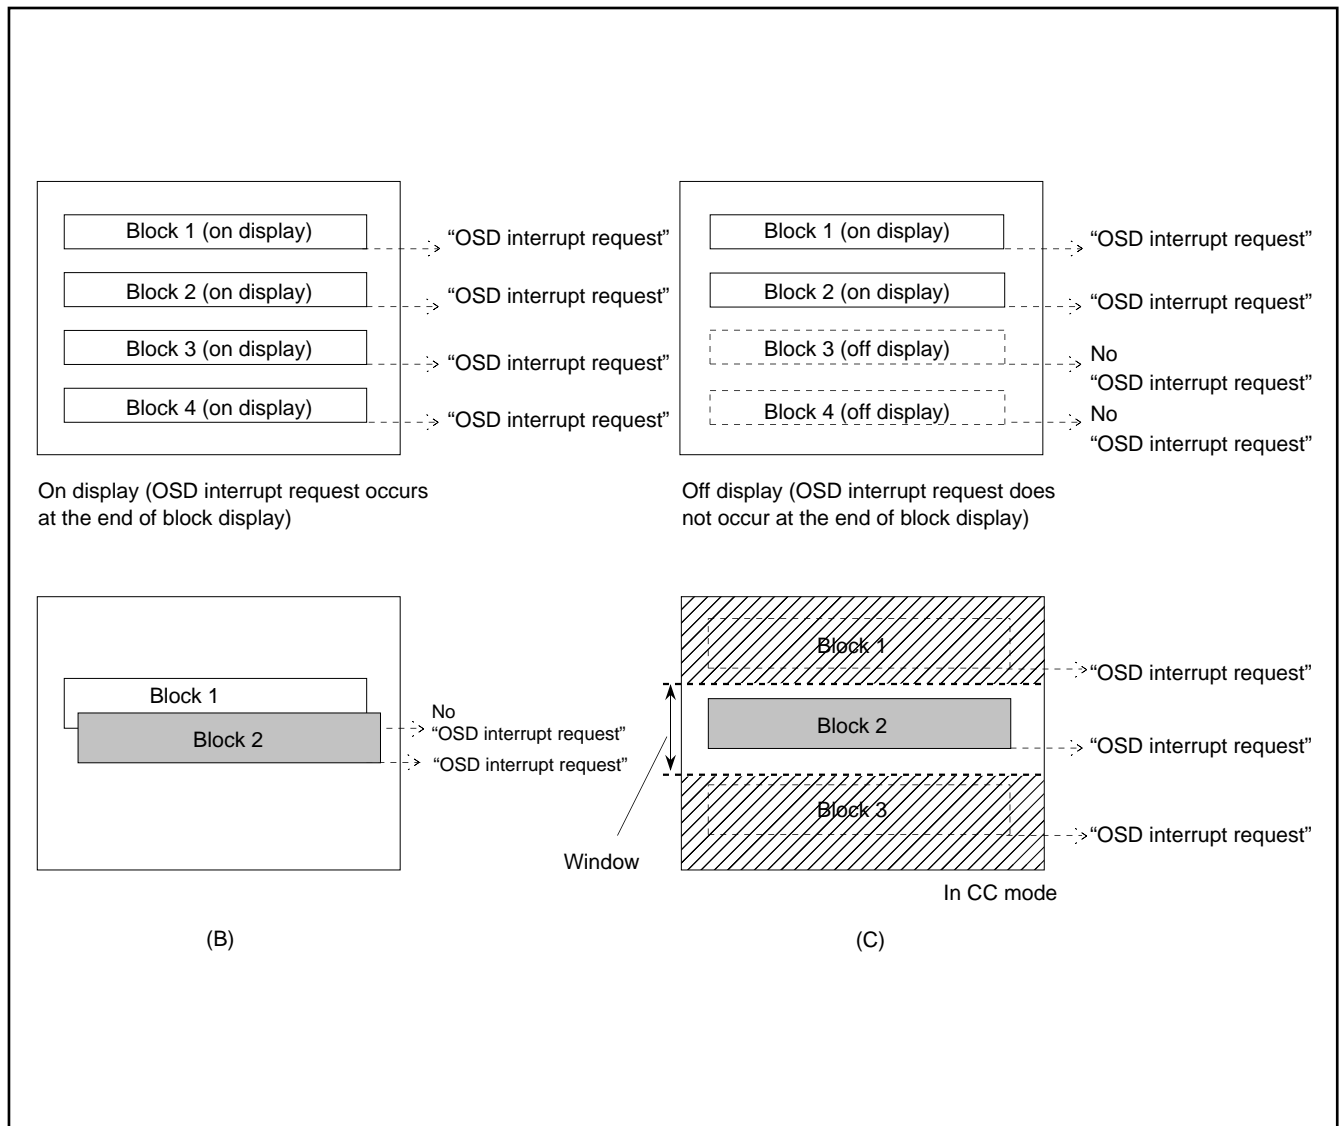

Fig. 75. Note on occurrence of OSD interrupt
**Notes 1:** An OSD interrupt does not occur at the end of display when the block is not displayed. In other words, if a block is set to off display by the display control bit of the block control register (addresses 00D016 to 00DF16), an OSD interrupt request does not occur (refer to Figure 75 (A)).
**2:** When another block display appears while one block is displayed, an OSD interrupt request occurs only once at the end of the another block display (refer to Figure 75 (B)).
**3:** On the screen setting window, an OSD interrupt occurs even at the end of the CC mode block (off display) out of window (refer to Figure 75 (C)).